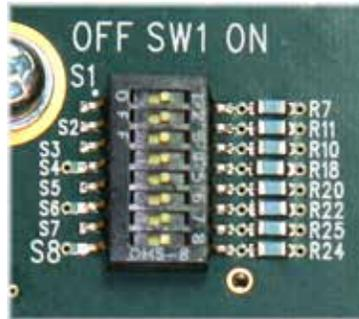

Figure 5. ILC274M Configuration Switch SW1
Switch SW1 controls the channel (A, B, C and D) operation including disabling the time slot and selecting the signal source (BNC versus backplane (BP)). Figure 5 shows the ILC274M configuration switch SW1 located on top of the PCB.